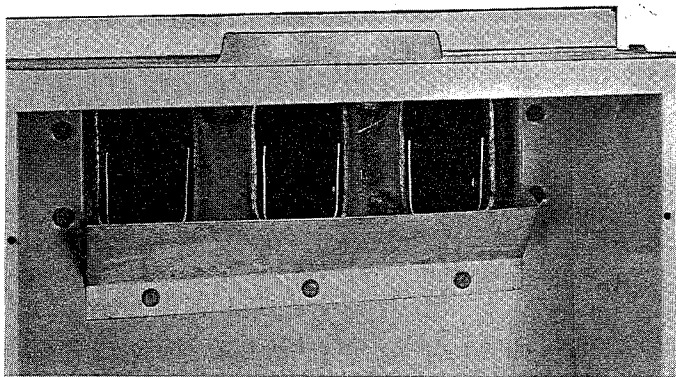

Figure 8 – Note metal angle strip held by 3 screws
5. Remove metal angle strip holding flue baffles in place. See Figure 8.